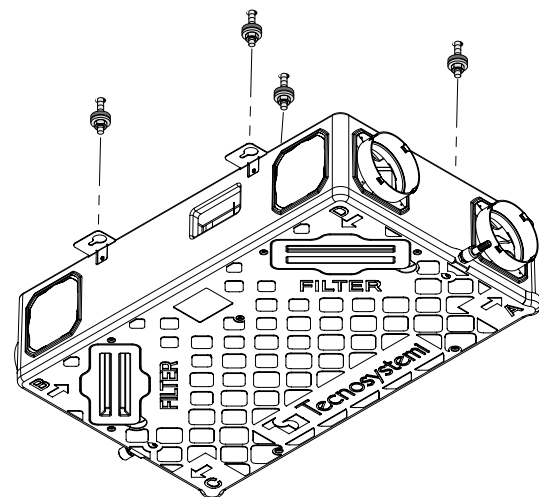

Fig. 3
3. Partially screw on the screws with the bolts in each hole (fig. 3).